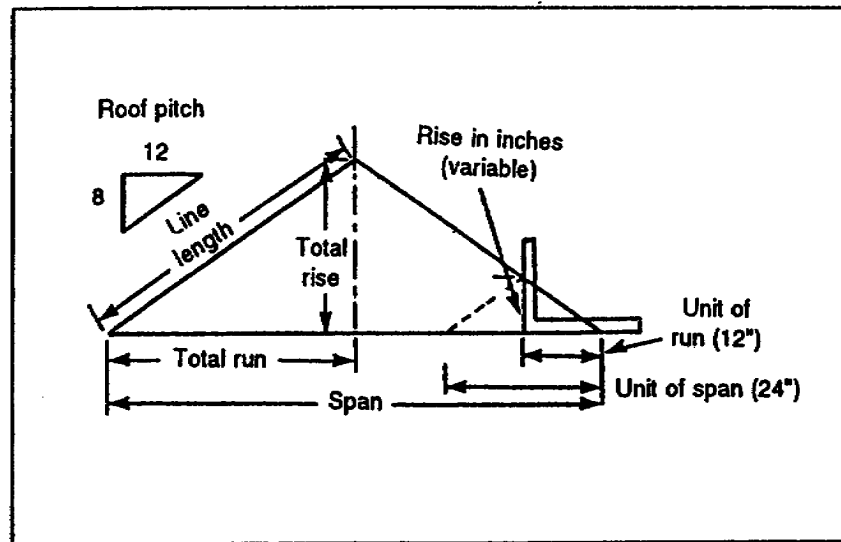

Figure 3-27. Roofing terms
c. Cut of a Roof. The cut of a roof is the rise over the run (such as 4/12 roof) or the pitch of the roof (see Figure 3-27).
d. Span of a Roof. The span of any roof is the shortest distance between the two opposite rafters' seats (see Figure 3-27).
e. Line Length. In roof framing, line length is the hypotenuse of a triangle whose base is the run and whose altitude is the total rise (see Figure 3-27).